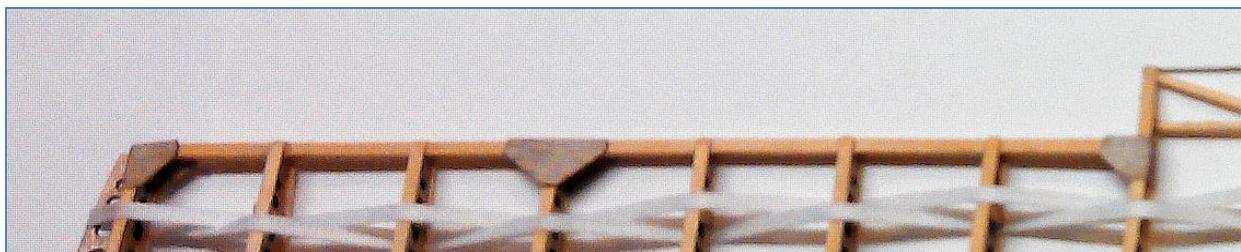

Figure 1.15 Tip section of top wing
- The Aileron Spar Braces (WW24) and the Aileron Center Spar Braces (WW25) are added at each end and center of the spar before adding the cap strips as shown in Figure 1.15 and on Sheet C. Position them so they align with the cap strips.